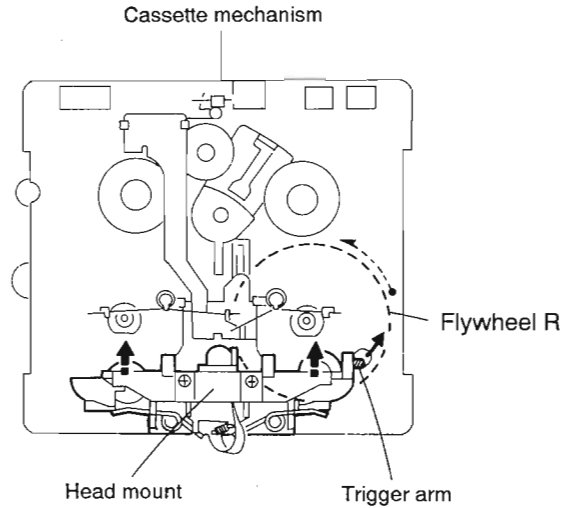

Fig.3-24 (Mechanism A side)
(See Figs.3-24~26)
1. While shifting the trigger arms seen on the right side of the head mount in the arrow direction, turn the flywheel R in counterclockwise direction until the head mount has gone out with a click (See Fig. 3-24).